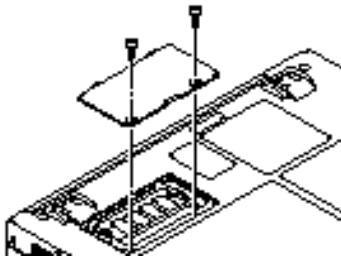

Figure 4-12 Opening the Memory Upgrade Compartment
4. Remove the screws at the front of the memory upgrade module compartment. (See Figure 4-12.)
5. Remove the cover by tilting the front edge up and then pulling forward until the tabs on the cover are free. (See Figure 4-12.)